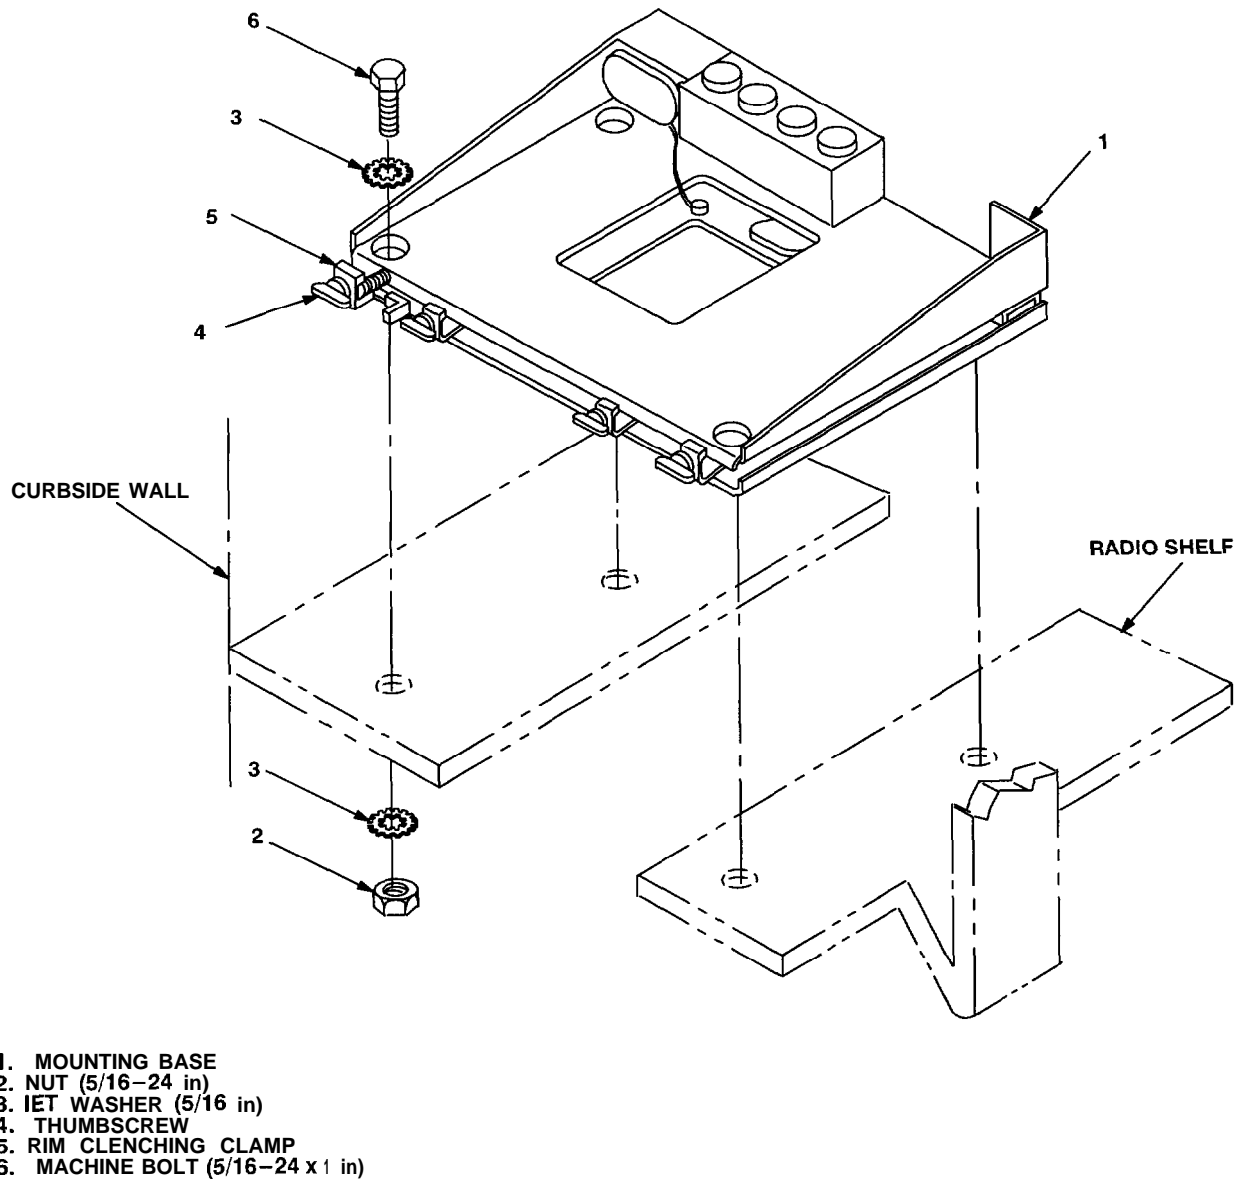

Figure 5-4. Mounting Base Installation
5.2 Installation of Mounting Base, Electrical Equipment MT-6352/VRC (mounting base). Remove and retain attaching bag of 5/16 in mounting hardware for installation. To insure good electrical grounding, any rust, corrosion or paint around mounting holes in radio shelf should be removed before installing the mounting base. See figure 5-4 and perform the following steps.
a. Mounting base (1) and existing radio shelf.	Remove a 2" square area of paint on the underside of the mounting base (1) around left front and rear mounting holes. Remove a 2" square area of paint on the existing radio shelf around the existing mounting holes that mate with left front and rear mounting base (1). Clean the paint removed areas and apply a thin coat of CASC.	Tools: Electric grinder or equivalent.
b. Mounting base (1).	Place on existing radio shelf over existing holes. See Figure 5-4.
c. Two outer thumbscrews (4).	Turn ccw until both sets of threads have cleared center of holes.
d. Mounting base (1).	Align four holes with matching hole pattern in shelf.
e. Four machine bolts (6) four internal/external-toothed (IET) washers (3) and four nuts (2).	Install and secure to mounting base (1) and shelf.	Tools: 1/2 in socket and 1/2 in open/box wrench.
f. Two outer thumbscrews (4)	Tighten and secure to rim clenching clamps (5) and mounting base (1).